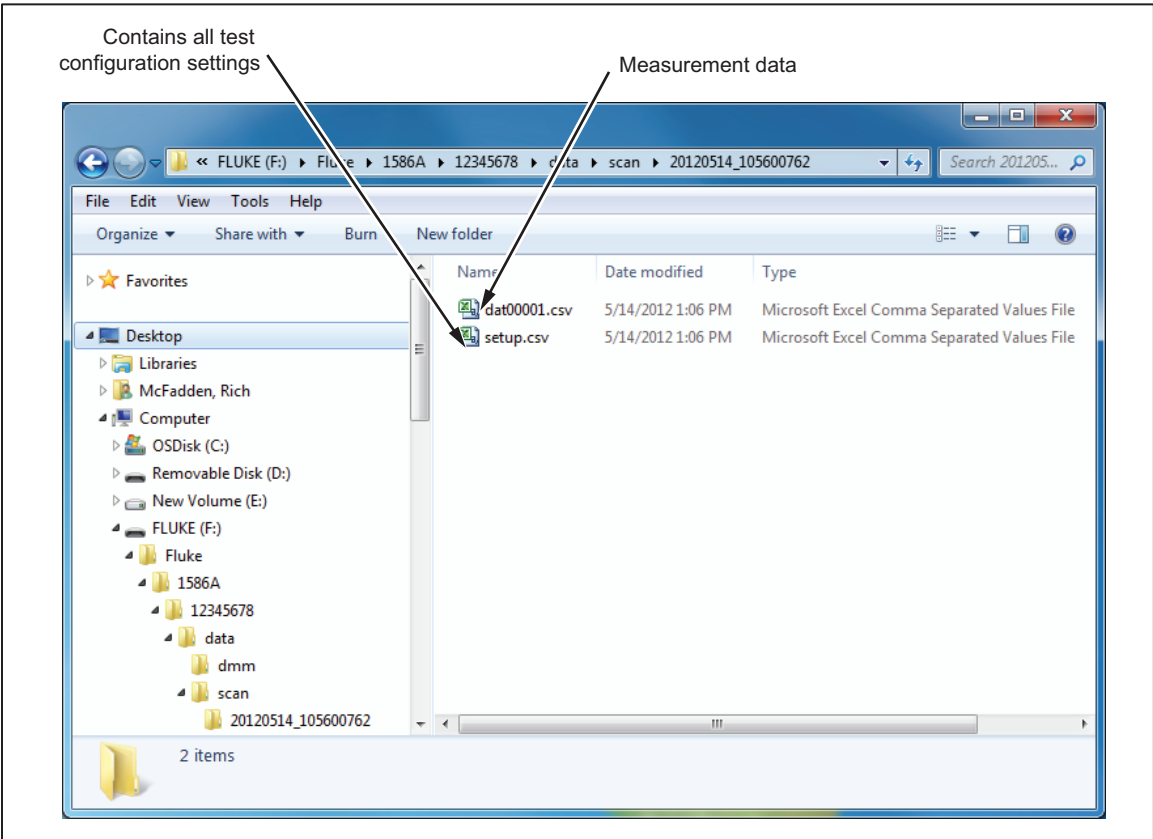

Figure 4-9. Setup.csv and Dat00001.csv Files
5. Navigate to the data folder as follows (see Figure 4-9 for an example of the folder structure):
- 6. Choose a file to open then double-click on the file. The time-stamped data folder contains two comma-separated values (.csv) files: **setup.csv** and **dat00001.csv**. The setup.csv file contains all the test parameters that were configured when the data was recorded. The dat00001.csv contains all of the recorded measurement data. See Figure 4-9.